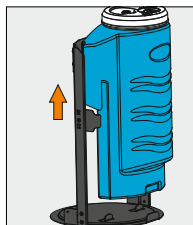

Figure 3
- 1) Slide up Reservoir Kit from its frame (Figure 3 and 4).